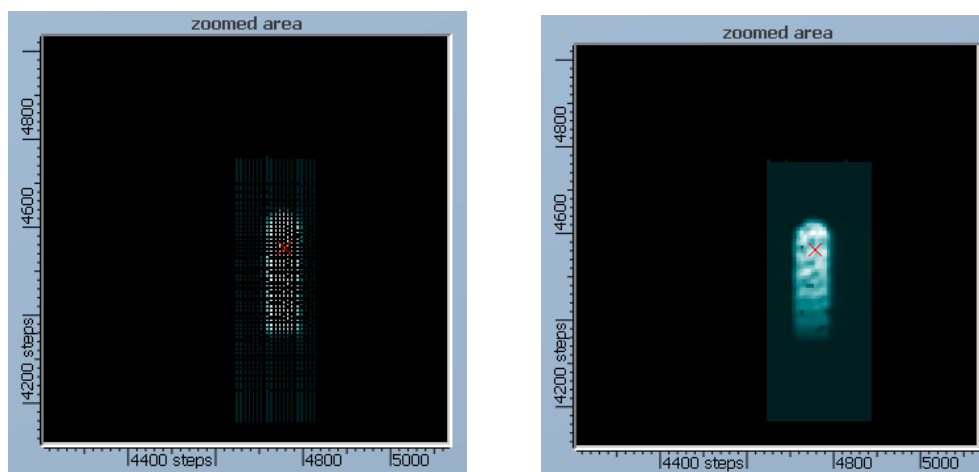

Figure 3.5.5 **Left:** Image of the cantilever obtained by using show tip command.
- Obtain an image of the cantilever using the show tip command, or an image of the distribution of the Mag signal using the show mag command (fig. 3.5.5).